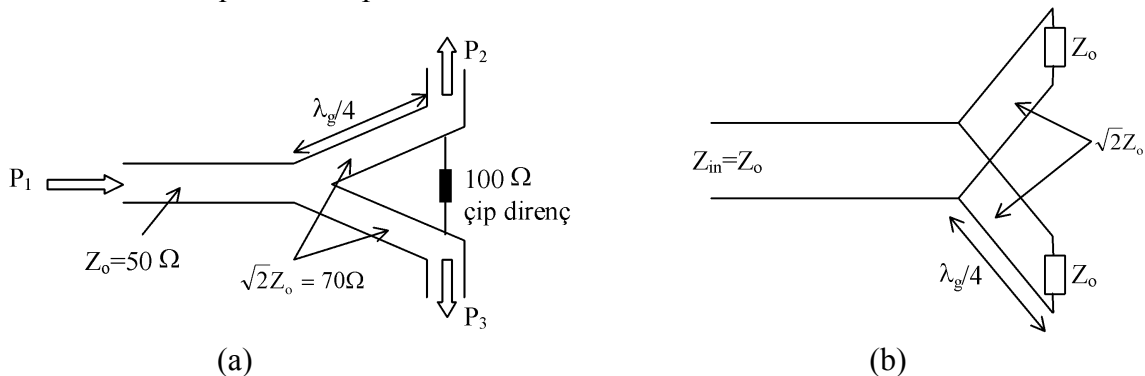

Figure 3: (a) 3-dB Wilkinson power divider schematic, (b) its equivalent input circuit.
**Wilkinson Power Divider:** Power dividers are components that split the input signal power and deliver it to their outputs. A 3-dB Wilkinson power divider splits the input power into two equal halves and delivers them to the outputs. Figure 3 shows a 3-dB Wilkinson power divider and its equivalent input circuit.